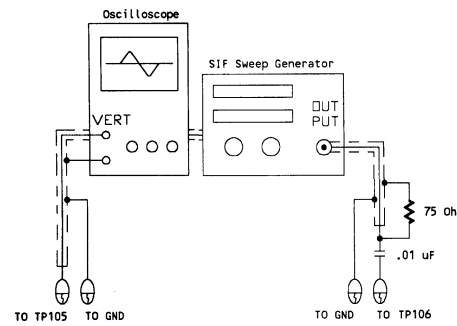

Fig.7
A. PREPARATION STEP (SEE FIG.7)